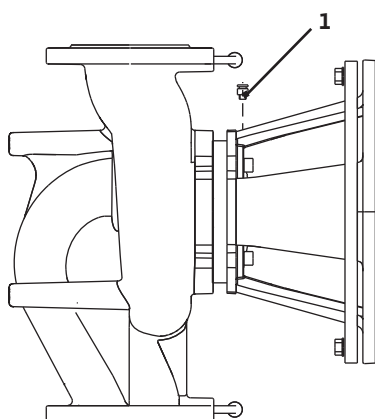

Fig. 17: Bleed valve
- The bleed valve (Fig. 17, Item 1) must always be facing upward.